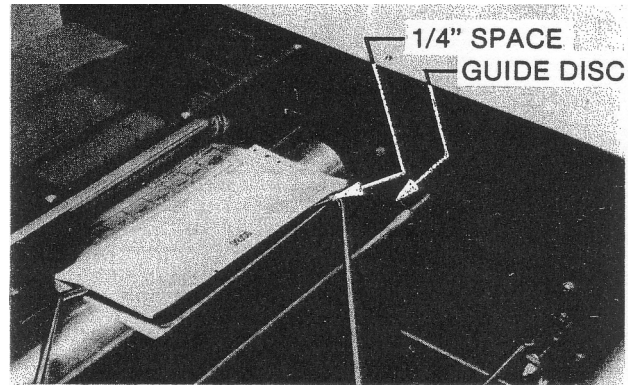

Fig. 2
2. Adjust tractors so that the perforation of the left margin of the form lines up to approx. 1/4 inch from the end of the deleaver rod. (See Fig 2)
NOTE: The guide disks shown in Fig. 2, should be set to guide the left margin from moving away from the deleaver rods.